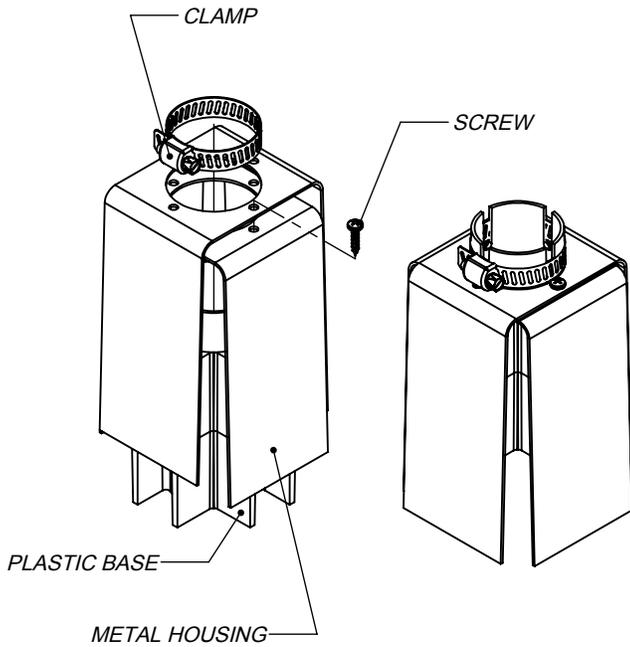

Figure 7
- 1) Assemble each paddle bracket set as shown in Figure 7. Leave the clamps loose so that the bracket sets may fit onto the post mount.